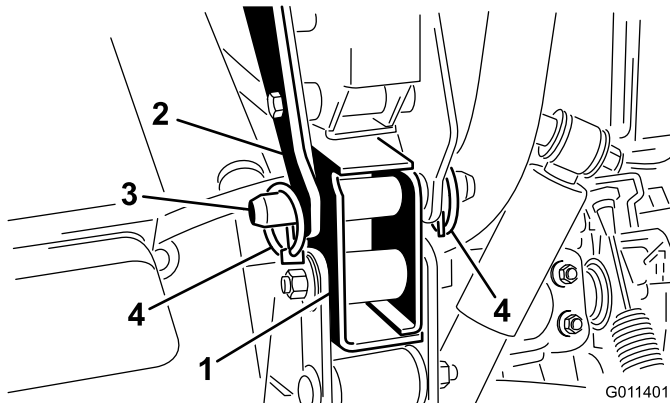

Figure 8
6. Secure each rear mounting bracket to vehicle frame with a clevis pin and (2) lynch pins (Figure 8).